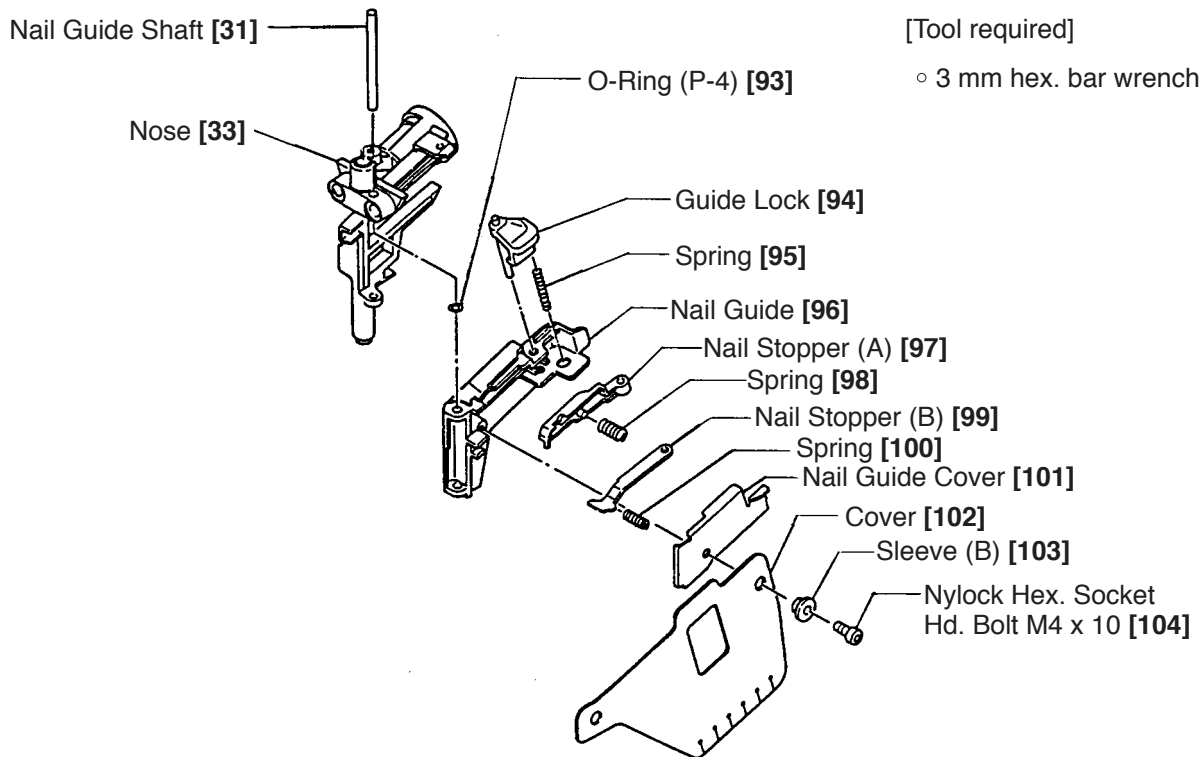

Fig. 28 Disassembly and reassembly of the nail guide
(3) Disassembly and reassembly of the Nail Guide [96] (See Fig. 28.)